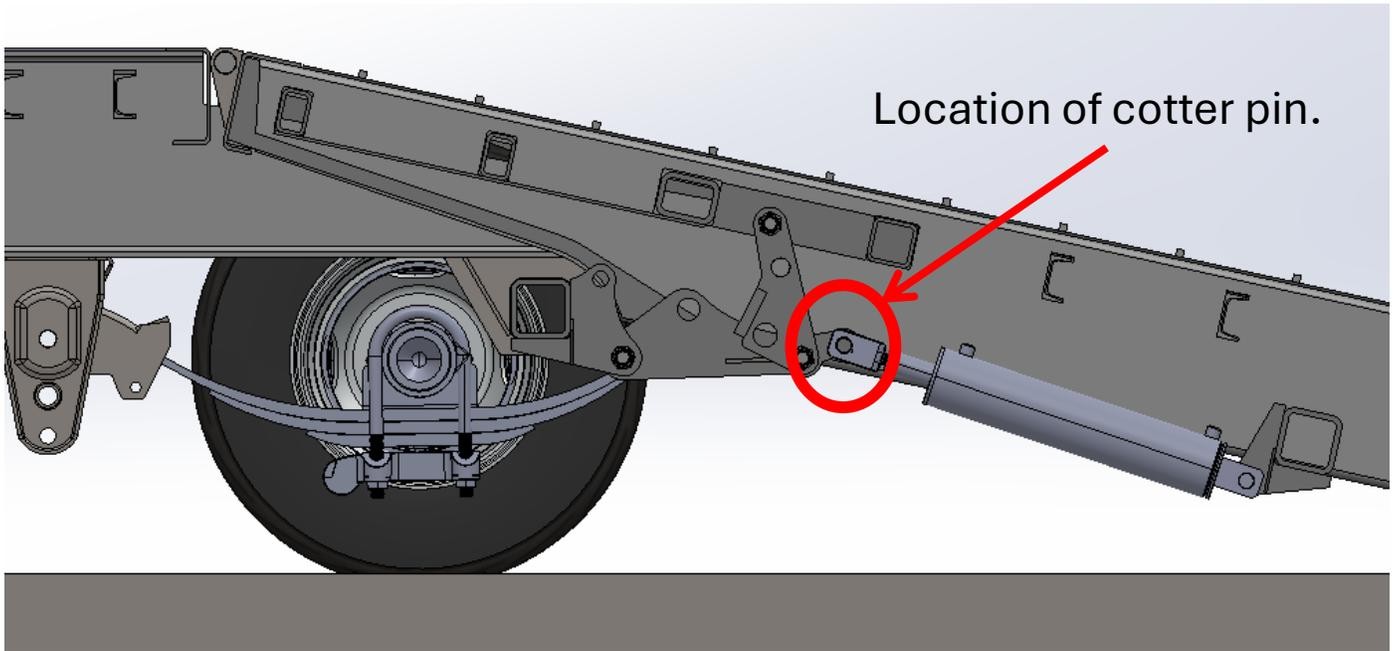

Figure 4. Components hidden for clarity.
2. Locate the clevis pin assembly. (See Figure 4)